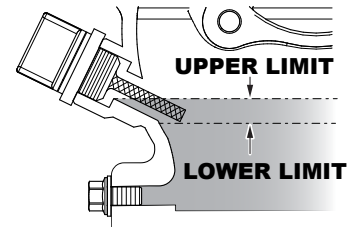

**Figure 10. Engine Oil Dipstick (Removal)**
2. Remove the filler dipstick from the engine oil filler hole (Figure 10) and wipe it clean.